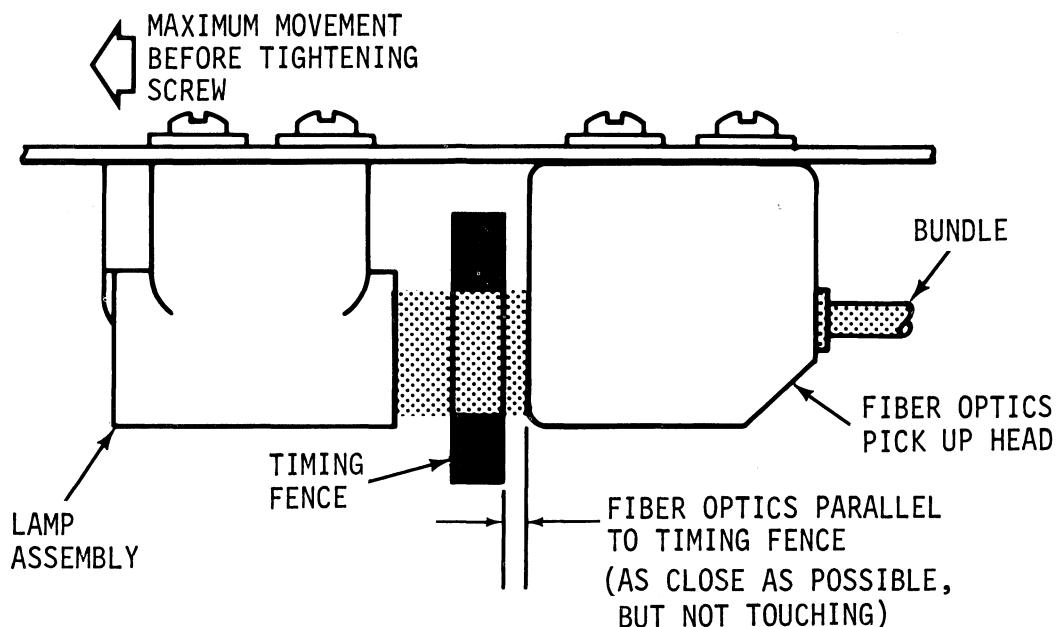
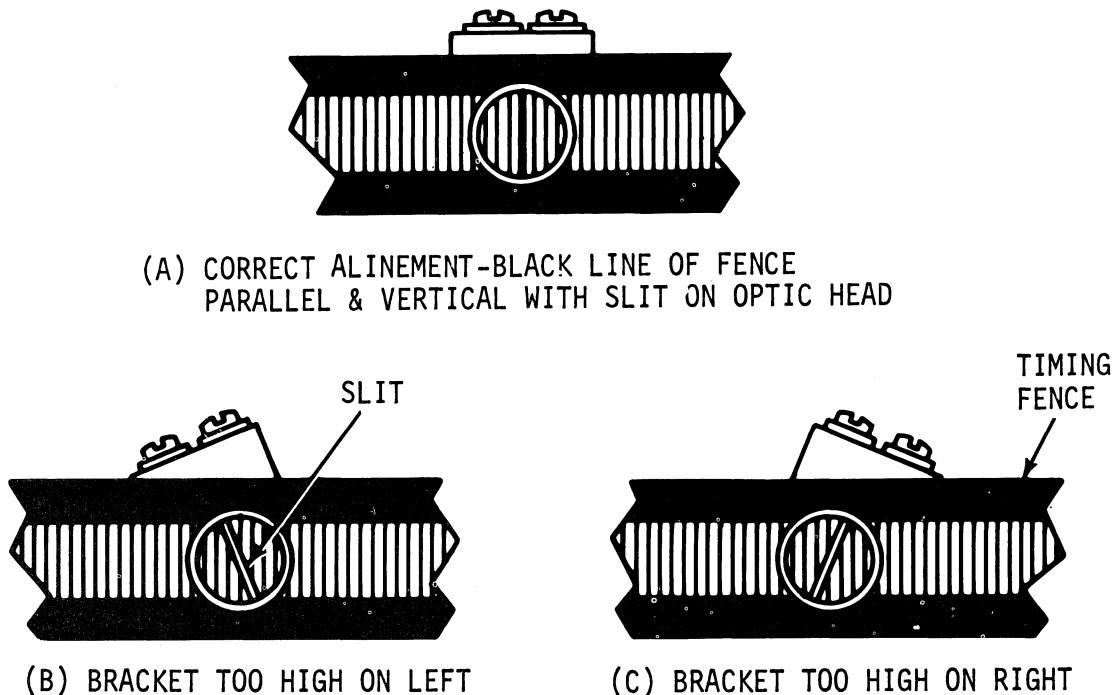

Figure 5-16. FIBRE OPTICS HEAD, ADJUSTMENT FROM OPTIC FENCE
Figure 5-17. FIBRE OPTICS HEAD ALIGNMENT AND FLEXIBLE TIMING FENCE
5.2.18 ADJUSTMENT OF FIBRE OPTICS HEAD IN RELATION TO TIMING FENCE (Refer to Figures 5-16, 5-17)
2. Loosen screws and washers (42, 43) on lamp holder housing assembly (40) (without lamp, 44) (GE379) and socket (15), and move housing backward (towards operator) on screw adjusting slots to maximum distance (See Fig. 5-16). Tighten screws and washers.
3. Loosen screws (42) and NO. 2 flatwashers (43) on fibre optics head (39) and move head toward flexible fence, but not touching (See Figure 5-16). Allow lead of optic bundle (part of fibre optic head (39), to hang freely. Do not tighten fibre optic head screws.
The following adjustments must be made to simulate correctly aligned lamp (GE379) so that when adjustments are final, the lamp is inserted and this light source is then directed properly through the timing fence to slit on fibre optic head (Fig. 5-16).
4. Adjust the right side, top edge of fibre optics head so that it is physically parallel with edge of video pc board (Fig. 7-15/1) and as close to fence without touching (See Fig. 5-16).
- a. If face of optics head is not parallel with respect to the vertically suspended timing fence, physically bend the bracket (21) slightly up or down to maintain parallelism. Tighten screws on optic head.
5. From a position in front of flexible timing fence and with fibre optic bundle (39) pointing to a light source, correctly align illuminated slit on optics head by observing through empty light housing (40) so that light slit on optics head is completely blocked by any black line on the timing fence (See Fig. 5-17(A)).
- (a) If the bracket (21) holding the optics head is too high on left (Figure 5-17(B), tap bracket to align slit and black line as shown in Figure 5-16.
- (b) If the bracket holding the optics bundle is too high on the right (Fig. 5-17(C), tap bracket to align slit and black line as shown in Fig. 5-16.
7. Insert lamp (44) (GE379) into socket (15) attached to lamp retainer (44) (part of lamp ass'y), but note that prior to insertion into lamp ass'y be certain lamp filament (inside lamp) is in a vertical plane paralleling slit, with respect to the opposing fibre optics head (39) for maximum blockage of light by black line on fence (Fig. 5-17(A)). Insert lamp retainer (part of lamp ass'y) (40), and tighten screw (30).
8. Install optic bundle lead of fibre optic head (39) into photo cell housing ass'y (14) installed on the top center of video amplifier board (1). Tighten screw (32) on clamp end of photo cell housing.
34. ELECTROMAGNETIC CLUTCH UNIT AND ROTOR (AE)
35. CLUTCH ARMATURE (AE)
36. DRIVING PULLEY (C) (AE)
37. MAIN DRIVE BELT UNIT (AE)
38. REED SWITCH AND BRACKET (AG)
39. FRONT CARRIAGE BAR (AA)
40. FIBRE OPTICS HEAD (FIG. 5-16)
41. TIMING FENCE (AB)
42. LAMP ASSEMBLY (FIG. 5-17)